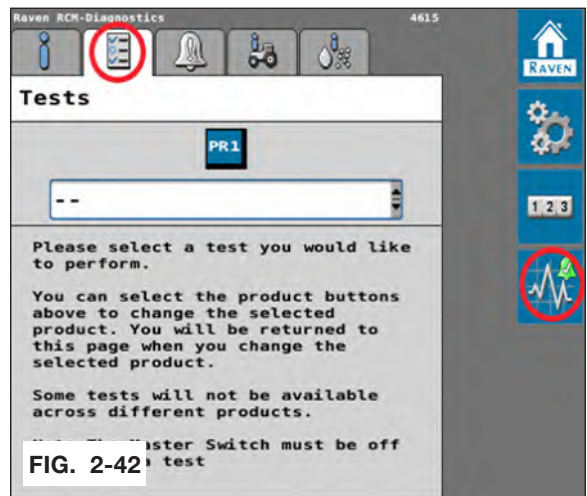

FIG. 2-42
1. Navigate to the Diagnostics page and select the Tests tab. (Fig. 2-42)